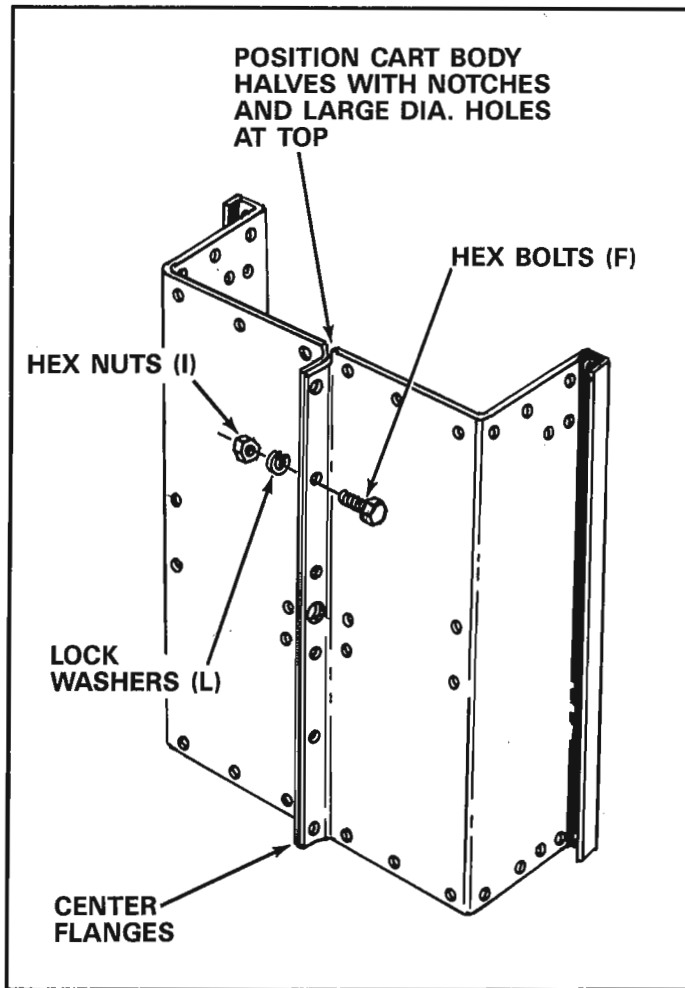

FIGURE 3
3. Position cart body halves (O) and (P) upright as shown in figure 3. **NOTE:** Large diameter holes and notches to the top.
4. Start bolts (F), lock washers (L) and hex nuts (I) through flanges, only make finger tight until all 6 bolts are in place. See figure 3.